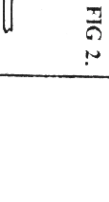

FIG. 5.
- 7) Referring to FIG. 5, fit Bridge Rectifier D1 in position shown. Trim leads to length and solder. **Ensure polarity is observed.**
- 7) Referring to FIG 5, fit Diodes D1, D3, D6 and D101 in positions shown. Trim leads to length and solder. Ensure polarity is observed.